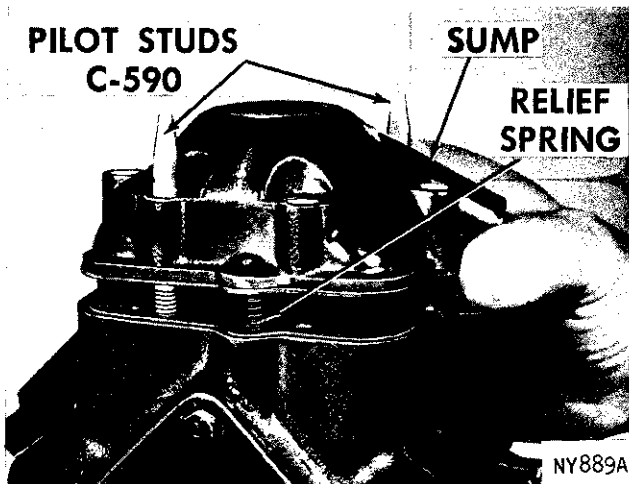

Fig. 39—Installing the Sump
- (1) Remove the bearing cap and install the piston in the bore. Use piston ring compressor to prevent ring damage.
- (2) Install the bearing caps, and tighten screws 52 to 56 inch-pounds torque. Be sure each cap is installed in its original position.
- (3) Install the valve plates and the cylinder heads.
- (4) Turn the compressor upside down. Install the pilot studs, gasket, oil pressure relief ball and spring.
- (5) Install the sump over the pilot studs (Fig. 39), making sure that the oil pressure relief spring depresses uniformly as the sump is lowered on the case.
- (6) Tighten the sump bolts finger tight to prevent spring misalignment, then tighten 15 to 19 foot-